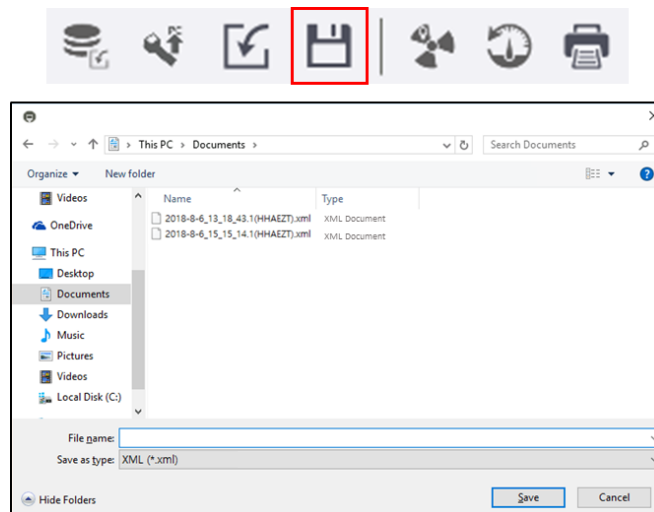

Figure 7.8.8. Save as XML file example
2. Click the disk icon  in the lower left corner of the screen. The directory screen will appear. (figure 7.8.8)